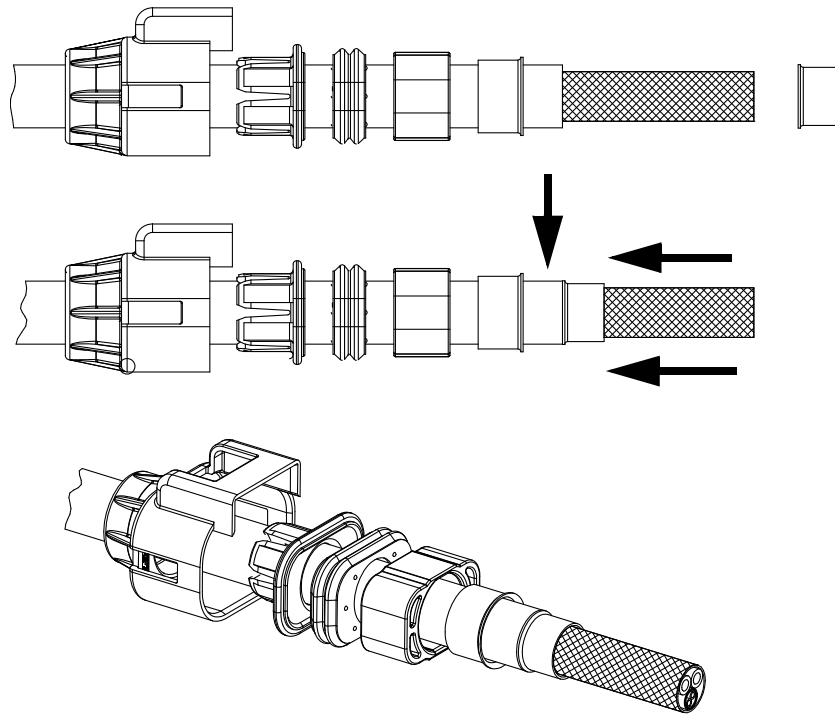

Figure 5
3. Insert the inner ferrule over the cable shield until it stops against the outer jacket as shown in Figure 5.